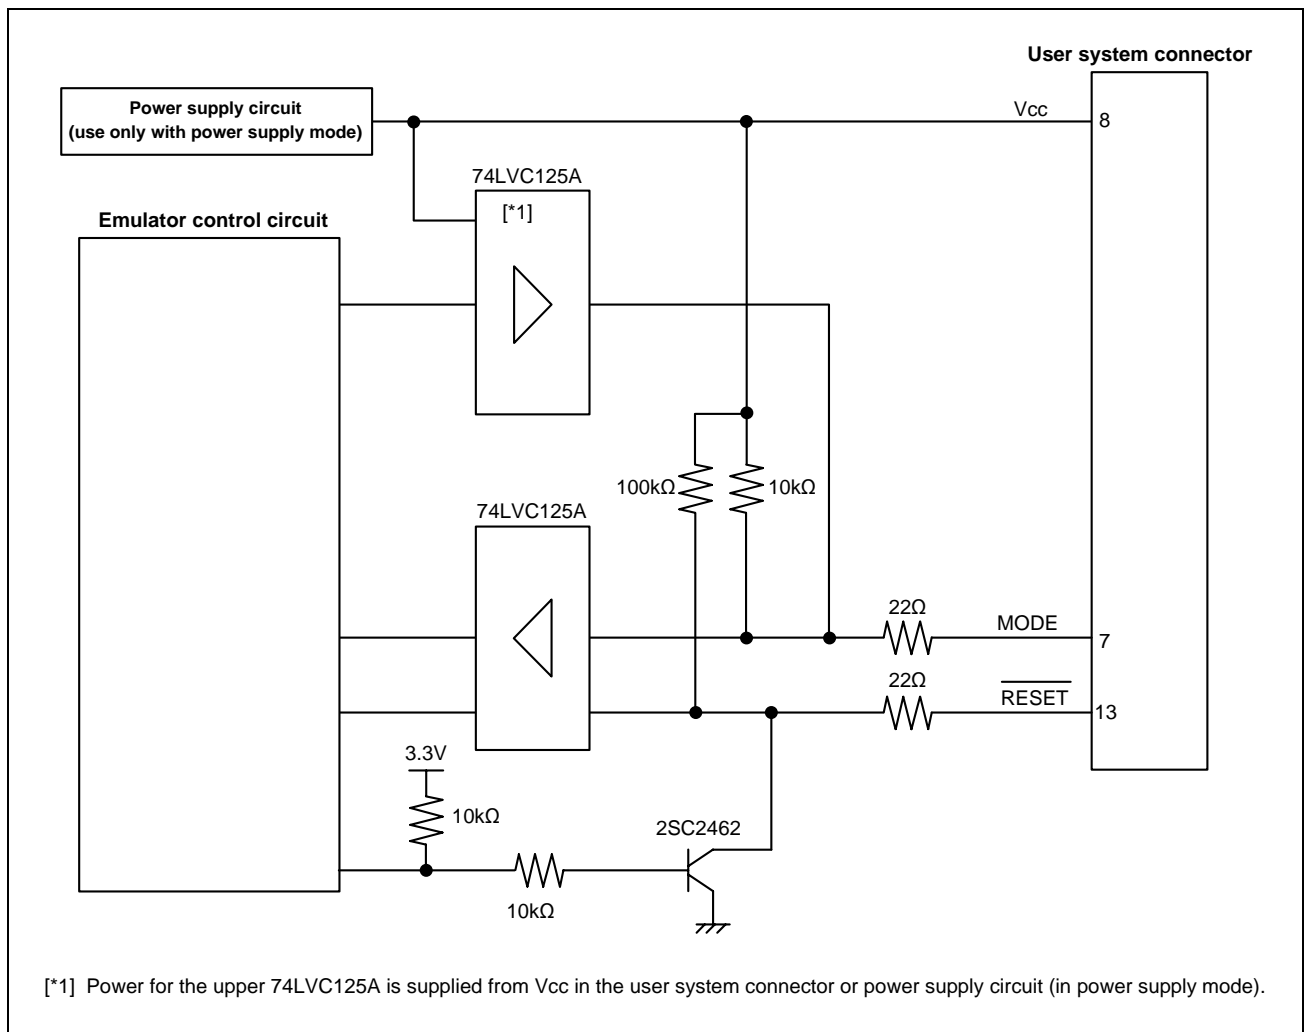

Figure 5.4 Interface Circuit Inside the E8 Emulator (For Reference)
7. Figure 5.4 shows the interface circuit in the E8 emulator. Use this figure as a reference when determining the pull-up resistance value.